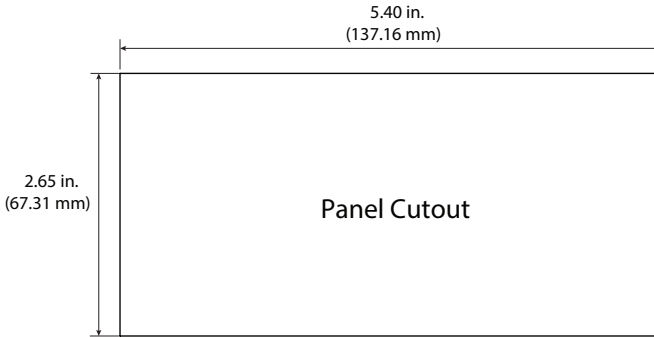

Figure 1: Panel cutout
1. Measure and cut a mounting hole to the dimensions shown in *Figure 1*.